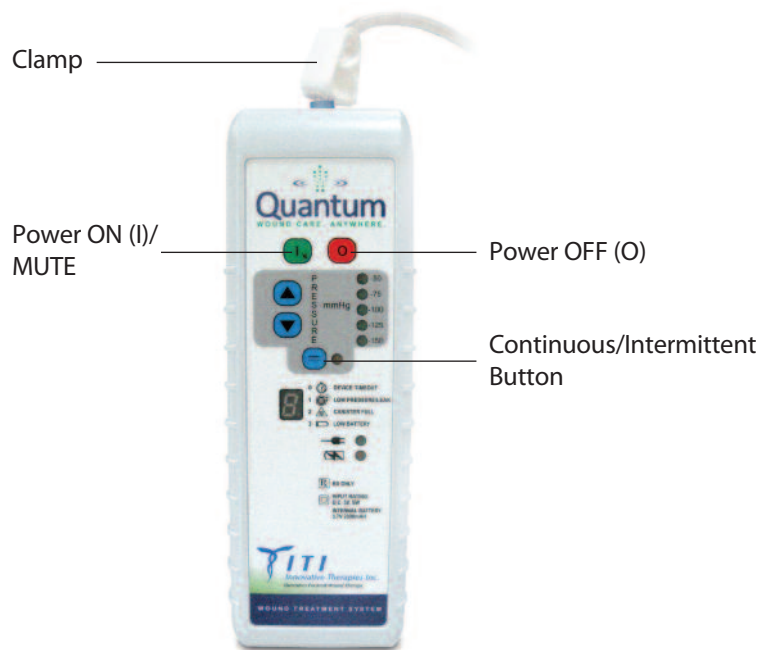

Figure 5
3. Connect the distal end of the SpeedConnect Tube with the blue tapered connector to the patient port of the Canister (see **Figure 4**). Gently twist and push the connector on just enough to secure and seal it. Also, make sure that the clamp on the SpeedConnect Tube is open (see **Figure 5**).
4. Plug the device's A.C. Adapter into a suitable 100-240 VAC, 50-60Hz, outlet. Insert the power plug into the Power Jack on the side of the device (refer to **Figure 5**). The Quantum Device should only be used with the supplied A.C. Adapter. Use of an incorrectly rated adapter could create a shock hazard for the patient and caregiver.